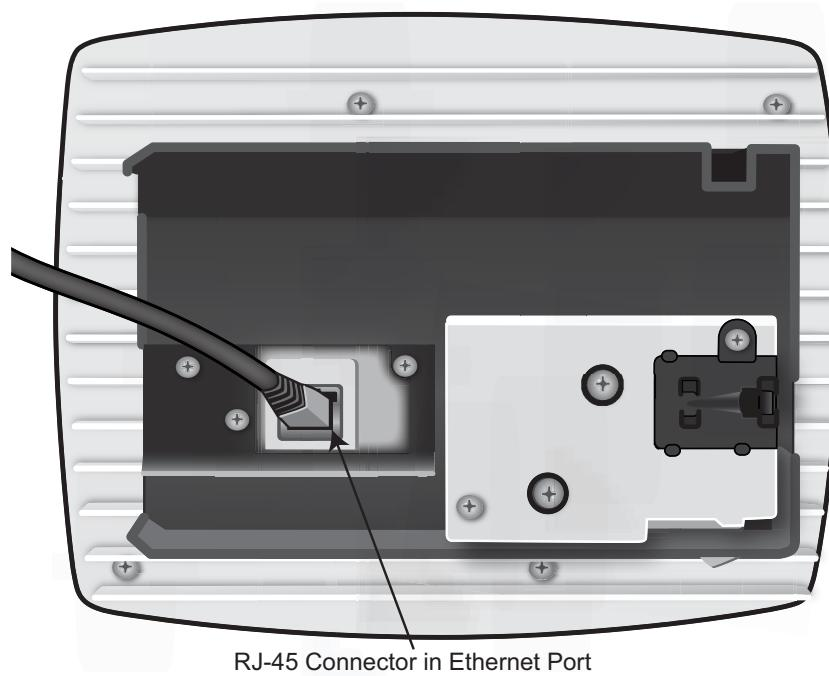

Figure 14 Route and Terminate the Cable
Step 3 Insert the RJ-45 connector into the Ethernet port as shown in Figure 14: